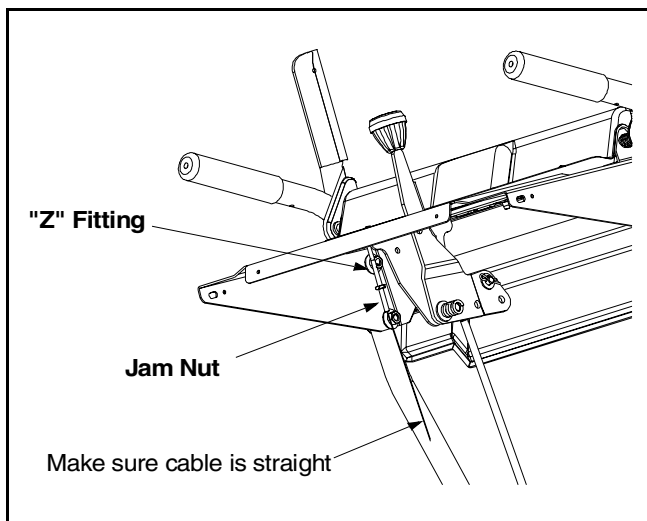

Figure 6
- Allow the auger to remain engaged for approximately ten (10) seconds before releasing the auger control. Repeat this several times.
- Retighten the hex jam nut. See Figure 6.